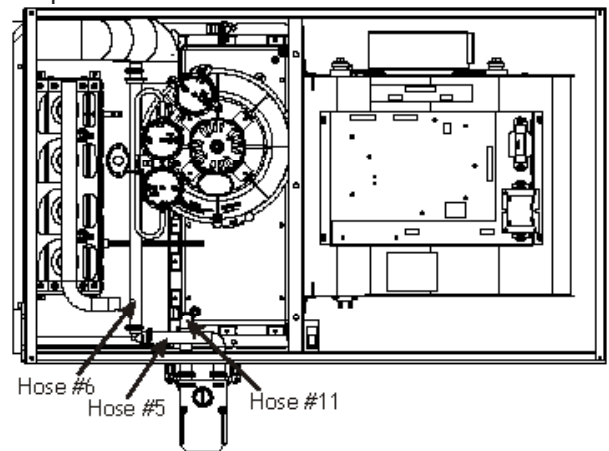

FIGURE 24
1. Install the 45 degree pipe / hose drain coupling from the outside of the cabinet (barbed end goes in the cabinet) through the hole in the left side of the cabinet and secure with two field supplied #8 self-tapping screws (see Figure 24).